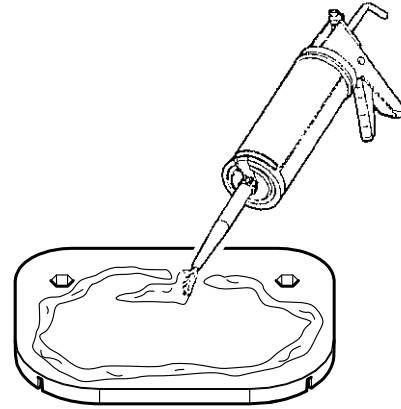

Fig. 7
4. Apply some sealant like SIKAFLEX®252 on the plates (**Fig. 7**).